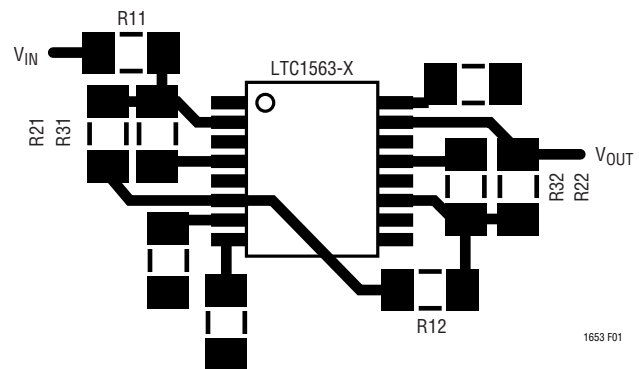

Figure 1. PC Board Layout
**AGND (Pin 7):** Analog Ground. The AGND pin is the midpoint of an internal resistive voltage divider developing a potential halfway between the  $V^+$  and  $V^-$  pins. The equivalent series resistance is nominally 10k $\Omega$ . This serves as an internal ground reference. Filter performance will reflect the quality of the analog signal ground. An analog ground plane surrounding the package is recommended. The analog ground plane should be connected to any digital ground at a single point. Figures 1 and 2 show the proper connections for dual and single supply operation.
**$V^-$ ,  $V^+$  (Pins 8, 16):** The  $V^-$  and  $V^+$  pins should be bypassed with 0.1 $\mu\text{F}$  capacitors to an adequate analog ground or ground plane. These capacitors should be connected as closely as possible to the supply pins. Low noise linear supplies are recommended. Switching supplies are not recommended as they will decrease the filter's dynamic range. Refer to Figures 1 and 2 for the proper connections for dual and single supply operation.
Figure 1 illustrates a good layout using the LTC1563-X with surface mount 0805 size resistors. An even tighter layout is possible with smaller resistors.